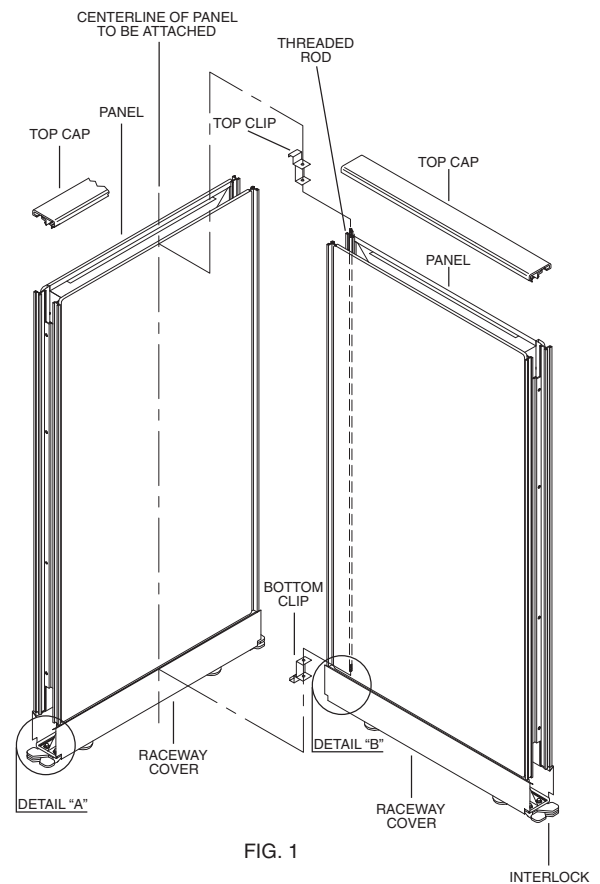

FIG. 1
5. Adjust the panel being attached to the exact placement and install top clip, washer, lockwasher and nut (Figure 1).